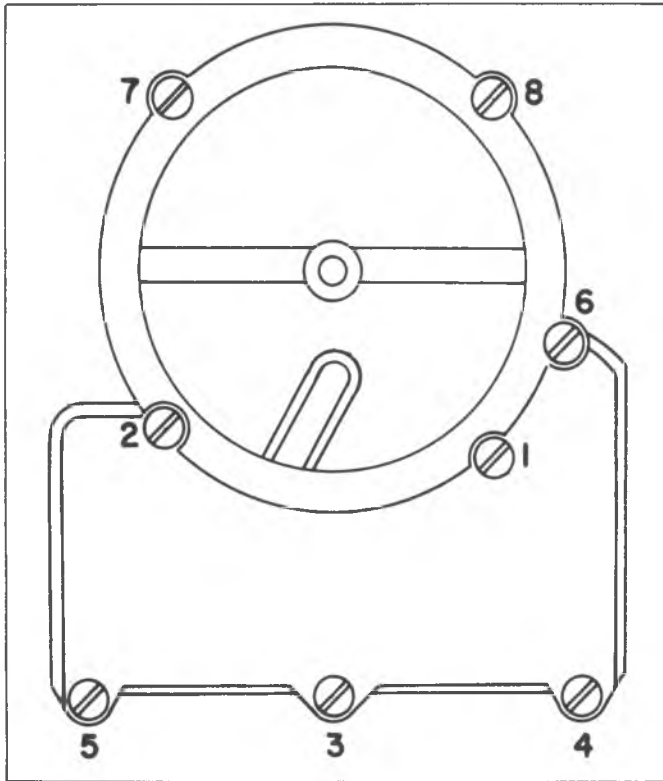

Fig. G11--Air Horn Tightening Sequence
2. Install and tighten air horn screws evenly and securely in sequence shown in Figure G11. The number one screw is the long screw.